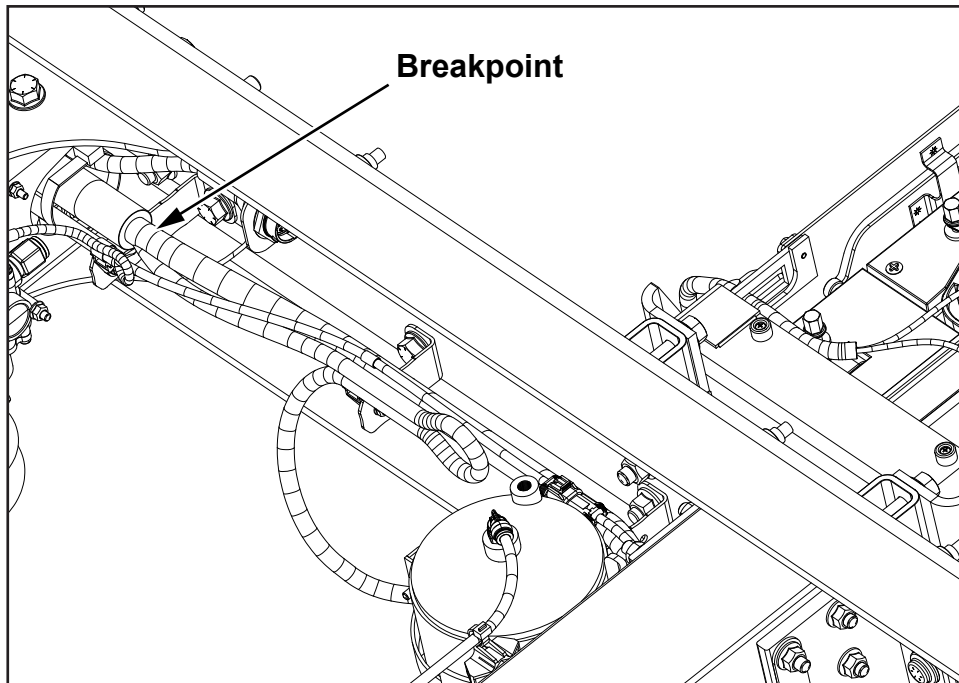

Figure 3
4. Remove the rear chassis harness from the battery box and continue until the indicated breakout. From the indicated breakout, measure 13.8 inches and cut open the harness that was removed from the battery box in step 4 (see *Figure 3*).